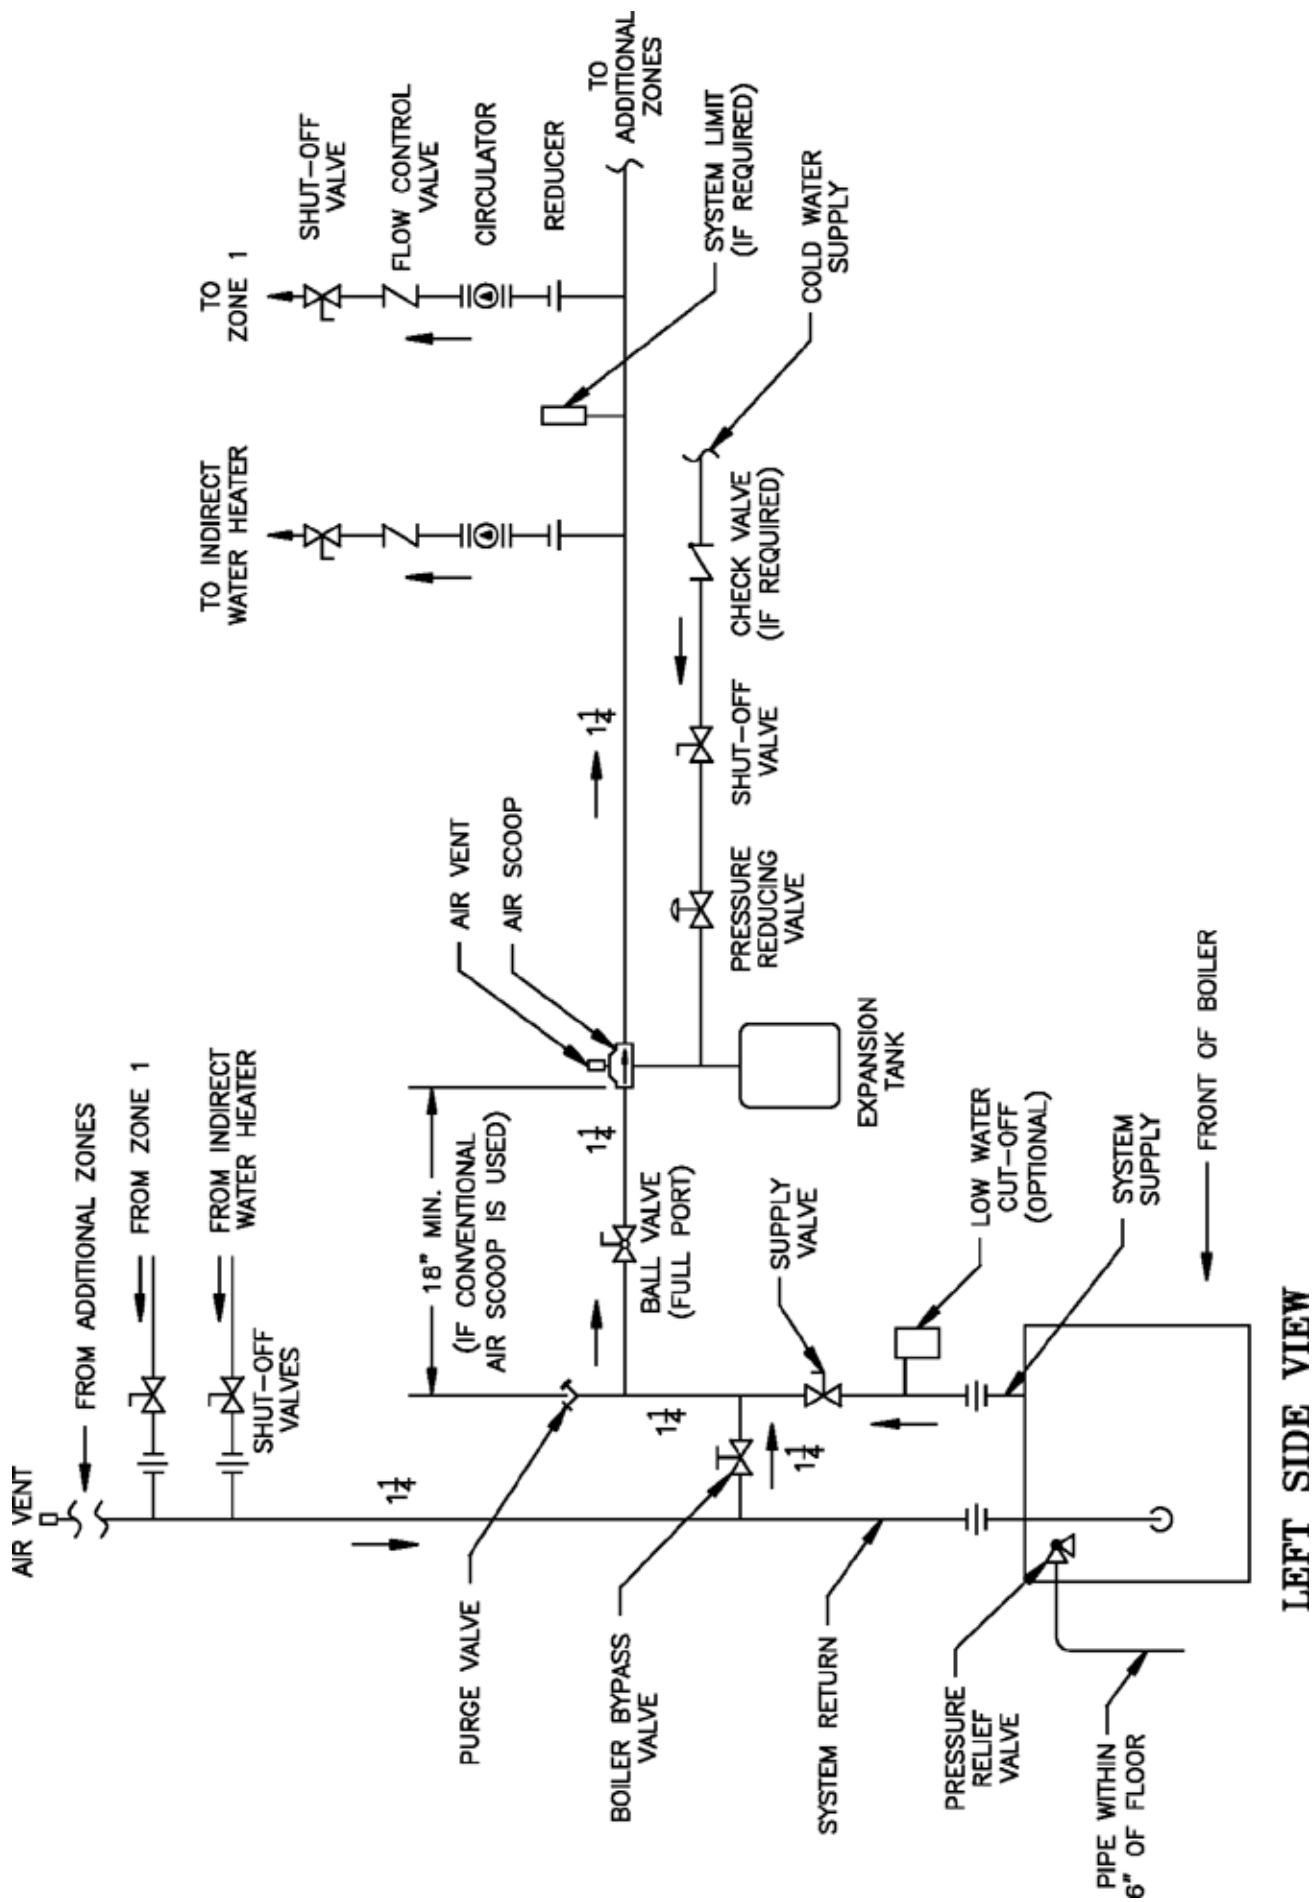

Figure 25: Recommended Water Piping for Circulator Zoned Heating System
2. For HOT WATER HEATING with Circulator (forced) see Figure 25 and 25A. Consult I=B=R Installation and Piping Guides.
- a. Bypass should be same size as supply and return lines with valves located in bypass and supply outlet as illustrated in Figures 25 and 25A in order to regulate water flow to maintain higher boiler water temperatures.